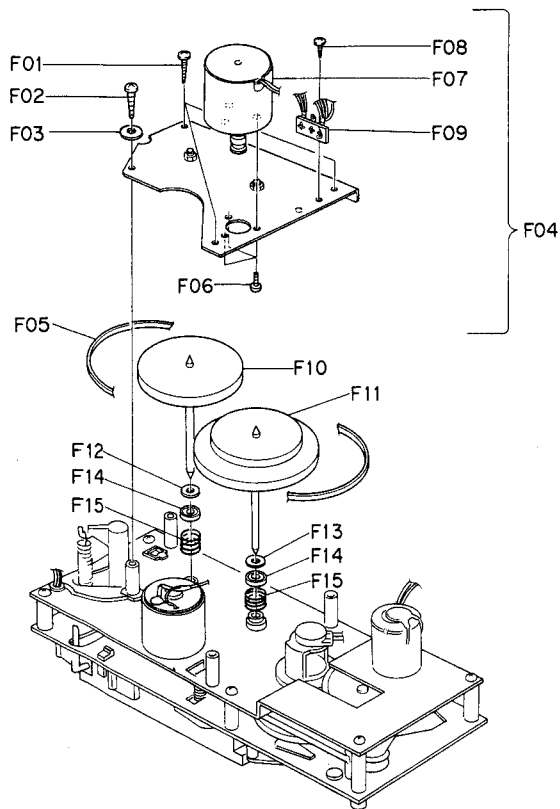

Fig. 2.7
Refer to Fig. 2.7.
- (1) Refer to Fig. 2.7. Remove Flywheel Holder Ass'y referring to item 2.14.
- (2) Remove F01, F02 and F03, then disassemble F04 (Sub Mechanism Chassis Ass'y).